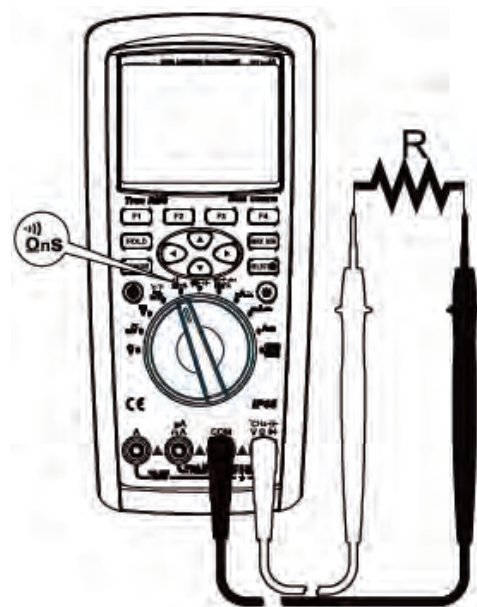

Figure 8
- 2) Set the rotary switch to the  $\Omega$  nS  position. The meter will default to resistance measurement. Connect the test leads to both ends of the measured resistance as shown in Figure 8.
- 2) Set the rotary switch to the measurement  $\Omega$  nS . Press the SELECT key twice to select Conductance measurement. Connect the test leads to both ends of the measured resistance as shown in Figure 8.
- 2) Set the rotary switch to the measurement  $\Omega$  nS , press the SELECT key to select the Continuity test . Connect the test leads to both ends of the measured resistance as shown in Figure 8. Press the function key labelled, "MENU" to select measurement options. Pressing the function key labelled, "SHORT" will put the meter in Short Circuit Alarm mode. Pressing the function key labelled, "OPEN" will put the meter in Open Circuit Alarm mode.